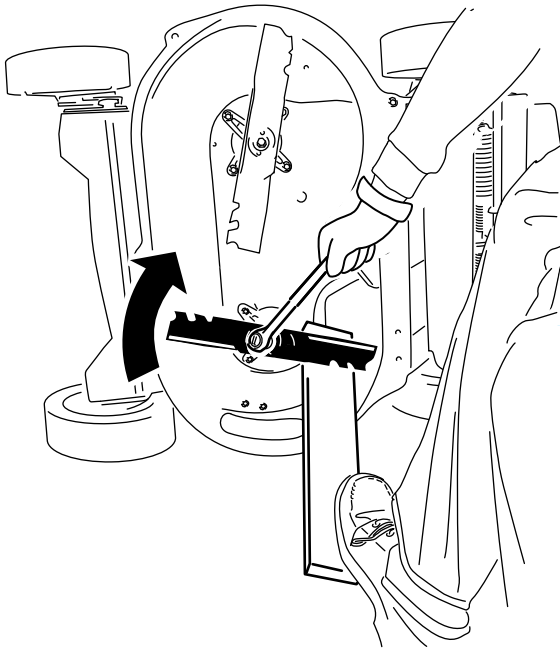

Figure 38
2. Steady each blade with a board and turn the blade bolt clockwise with a torque wrench as shown in Figure 38; torque each blade bolt to 82 N·m (60 ft-lb).